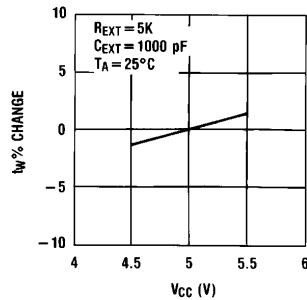

FIGURE 3
5. Output pulse width versus  $V_{CC}$  and operation temperatures: Figure 3 depicts the relationship between pulse width variation versus  $V_{CC}$ . Figure 4 depicts pulse width variation versus ambient temperature.